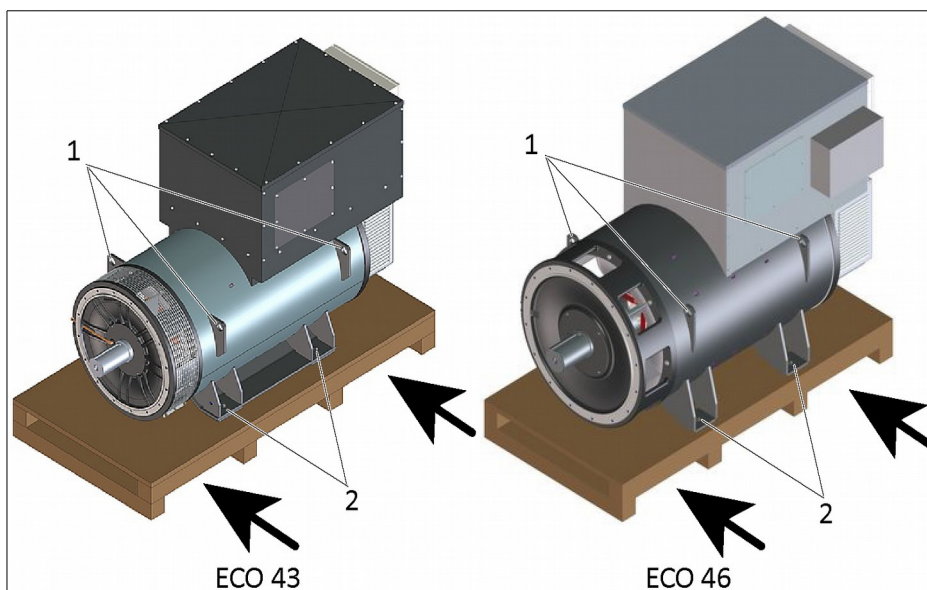
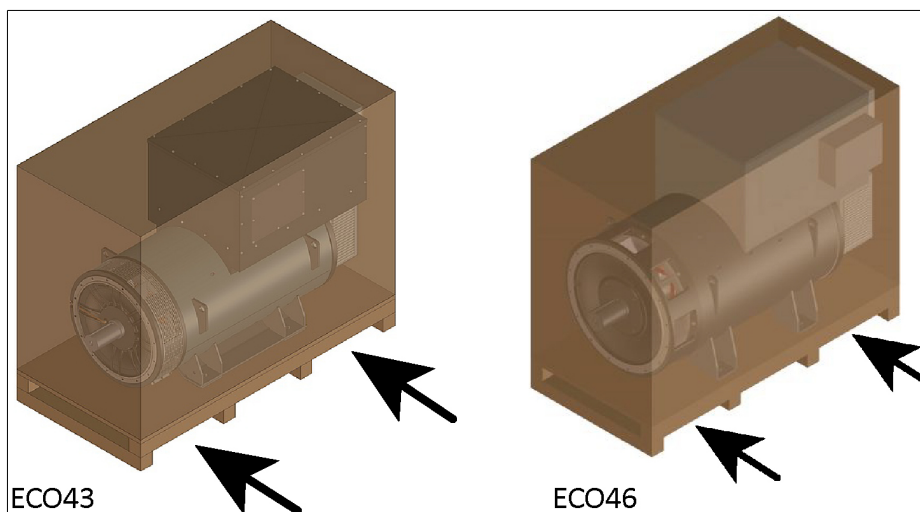

Figure 8- Transport on pallet
Figure 9- Transport on pallet covered with crate
- 1- Using a wooden pallet (Figure 8-)
- 2- By means of a pallet covered with a wooden crate in the case of shipping by sea (Figure 9-).
➔ Handle as shown in Figure 8- and Figure 9- .